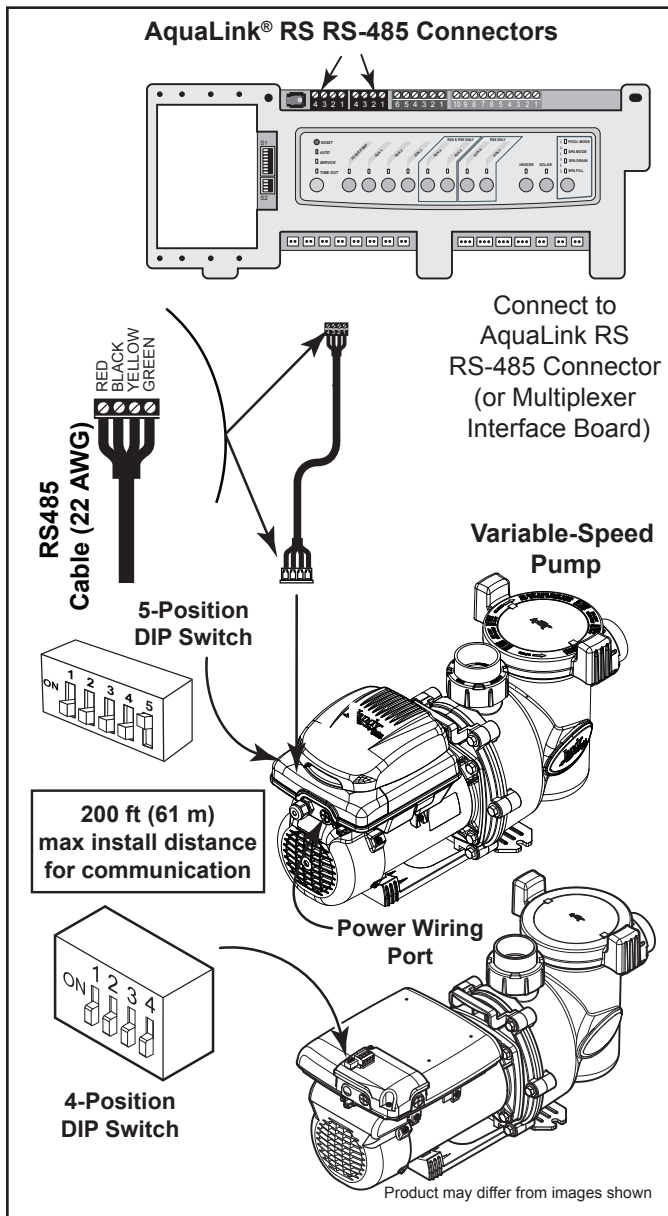

Figure 7. Wiring AquaLink RS Controller or AquaLink PDA
3. Slide dip switches 1 and 2 down to the OFF position. If applicable to your pump model slide dip switch 5 up to the ON position. See Figure 7.
- b. Connect the new RS-485 cable from the AquaLink through the available compression fitting and route the 4-conductor cable through the motor drive threaded port closest to the connector. Figure 7.
6. Connect the RS-485 connector on the AquaLink® RS (or multiplexer interface board), matching wire colors with connector positions as follows: 1-red, 2-black, 3-yellow, and 4-green. See Figure 7.
7. Secure the pocket cover and gasket with six (6) screws to the variable-speed controller base on the motor.
8. Remove the one (1) screw and access cover to complete electrical connections to the motor.
10. Prepare the cable and attach another 4-pin connector, ensuring the wire colors match Figure 7.
13. Verify the DIP switch settings match Figure 7.